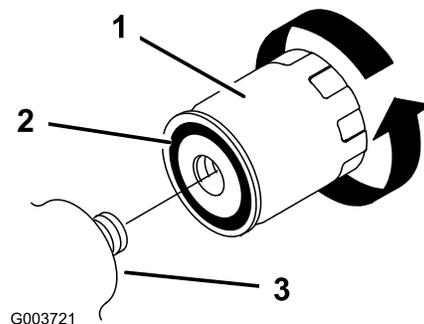

Figure 30
5. Remove the old filter (Figure 30) and wipe the surface of the filter adapter gasket clean.
6. Apply a thin coat hydraulic fluid to the rubber gasket on the replacement filter (Figure 30).
7. Install the replacement hydraulic filter onto the filter adapter (Figure 30). Tighten it clockwise until the rubber gasket contacts the filter adapter, then tighten the filter an additional 1/2 turn.